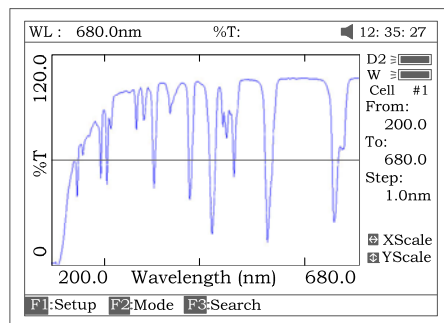

Fig 14
1. The key **[ENTER]** be pressed, the file selected will be loaded and displays on the screen. Fig 14.
✧ Press the key **[SAVE]** in Fig 14 to save curve.